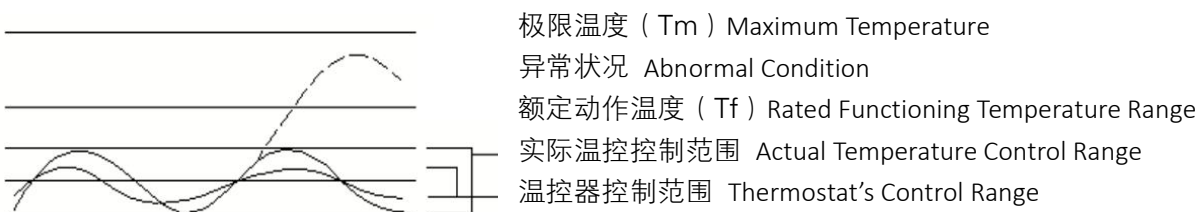

图 1 Fig.1
- 应用产品必须经过测试以确定出现任何异常状况时都不会使温度保险丝周围温度超过极限温度 (Tm)，这种状况可能出现在一种称为“余热过冲”的状况下。例如：一个热风机在进风口或出风口堵塞时引起温度升高到 Tf，这时温度保险丝断开电路，但是，一个不正确的设计可能会引起装置提前开路和过度的余热过冲可能会损伤保险丝，应用产品须经测试以确定在正常的温度波动状态 (如控温器的动作与复位引起的加热器温度波动) 下，温度保险丝周围温度在控温器的通断循环中不会达到 Tm。(见图 1)
- The end product should be tested to ensure that potentially abnormal conditions do not expose the thermal cutoff to the temperature exceeding its Tm. This condition may be subjected to a blocked inlet or outlet condition on attaining its Rated functioning temperature opening of the device and excess overshoot may cause shooting or damage to the thermal cutoff. The end product should be tested to ensure that under normal cycling condition (such as cycling of a thermostat), the thermal cutoff never reaches its Tf during the on/off cycle. (see Fig 1)